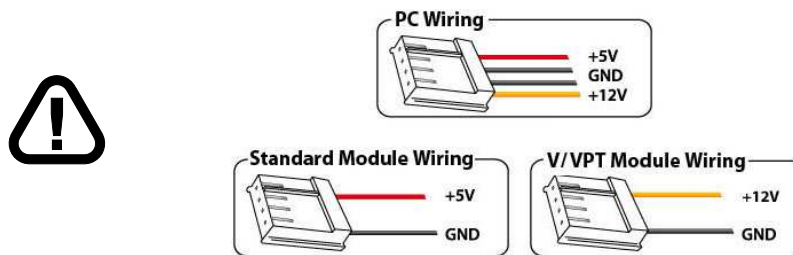

Figure 9: PC vs Matrix Orbital Display Module Wiring
- First, you will want to make sure that you are using the correct power connector. Standard floppy drive power cables from your PC power supply may fit on the Power/Data Connector however they do not have the correct pin-out as can be seen in *figure 9 on page 5*. Matrix Orbital supplies power cable adapters for connecting to a PC, which can be found in the *Accessories Section on page 1*.